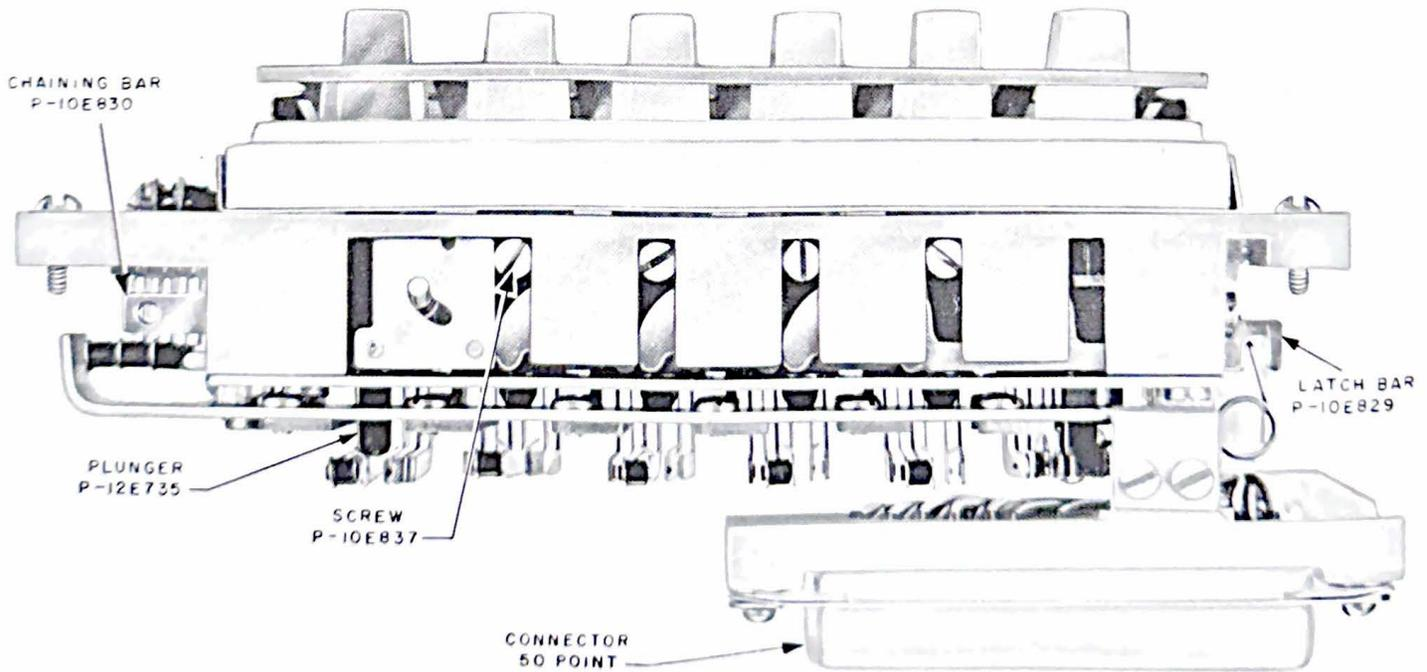

Fig. 11 - 599B Key
7.03 The 599B key (see Fig. 11) is the same design as the 599A key with the following exceptions: